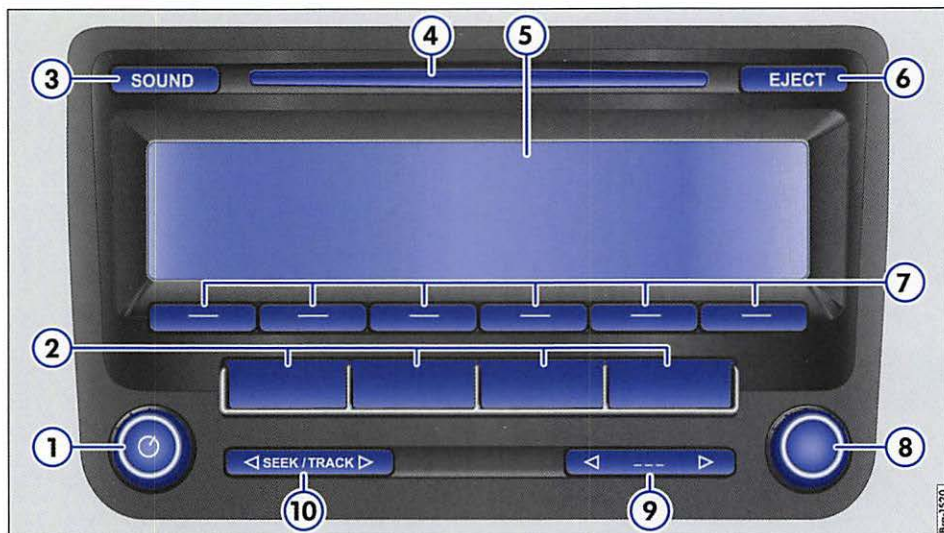

Fig. 1 Overview of the controls.
There are various versions of the RCD 310 that may have different key labels. The keys are shown without labels in the figure (in fig. 1: ② and ⑨).
① Rotary and push button
② Device keys: Press a device key to access a function. Labels and functions depend on the device variant.
The left rotary and push button ⇒ fig. 1  is designated Volume control  or On-Off switch.
The right rotary and push button ⇒ fig. 1  is the adjustment knob.
The labeled keys on the device are called "device keys" and are displayed as key icon with content in blue, such as the device key  ⇒ fig. 1.
Below the screen are six unlabeled device keys ⇒ fig. 1 . These device keys are called "function keys" because their function changes depending on the operating mode selected.
Switching device On or Off manually.	⏻ ⇒ fig. 1 Briefly press the rotary and push button. When ignition key is removed, the device switches off automatically after about 30 minutes (time out).
Increase volume.	Turn the volume control ⏻ ⇒ fig. 1 right or press the button on the multifunction steering wheel ⇒ booklet Operating Instructions , chapter Vehicle Overview .
Different versions of the radio system are shipped, depending on the country of delivery and the configuration. All variants are listed in the device overview ⇒ fig. 1.